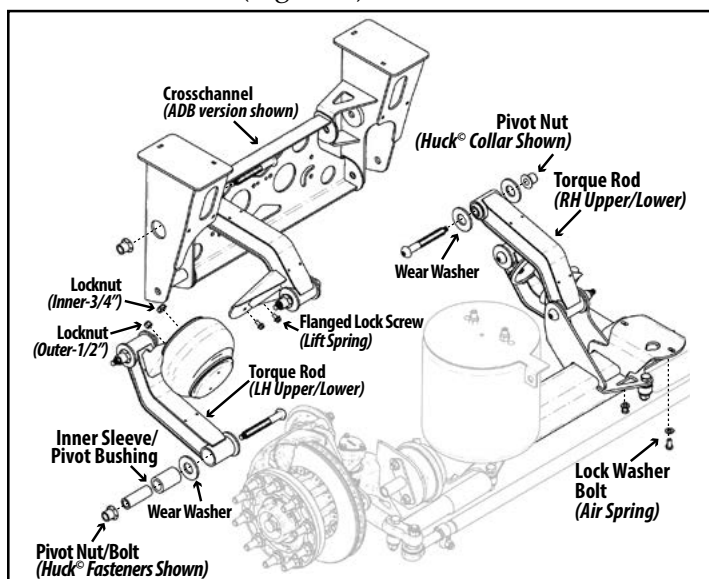

Figure 9.
1. Cut/grind away Huck® Collar. Take pivot connection apart. Discard pivot hardware. Discard wear washers (Figure 9).
6. Assemble the pivot connection with one wear washer on each side of the bushing. The inner sleeve of the bushing must be flush with or extend slightly past the outside of the wear washers after assembly (Figure 9).